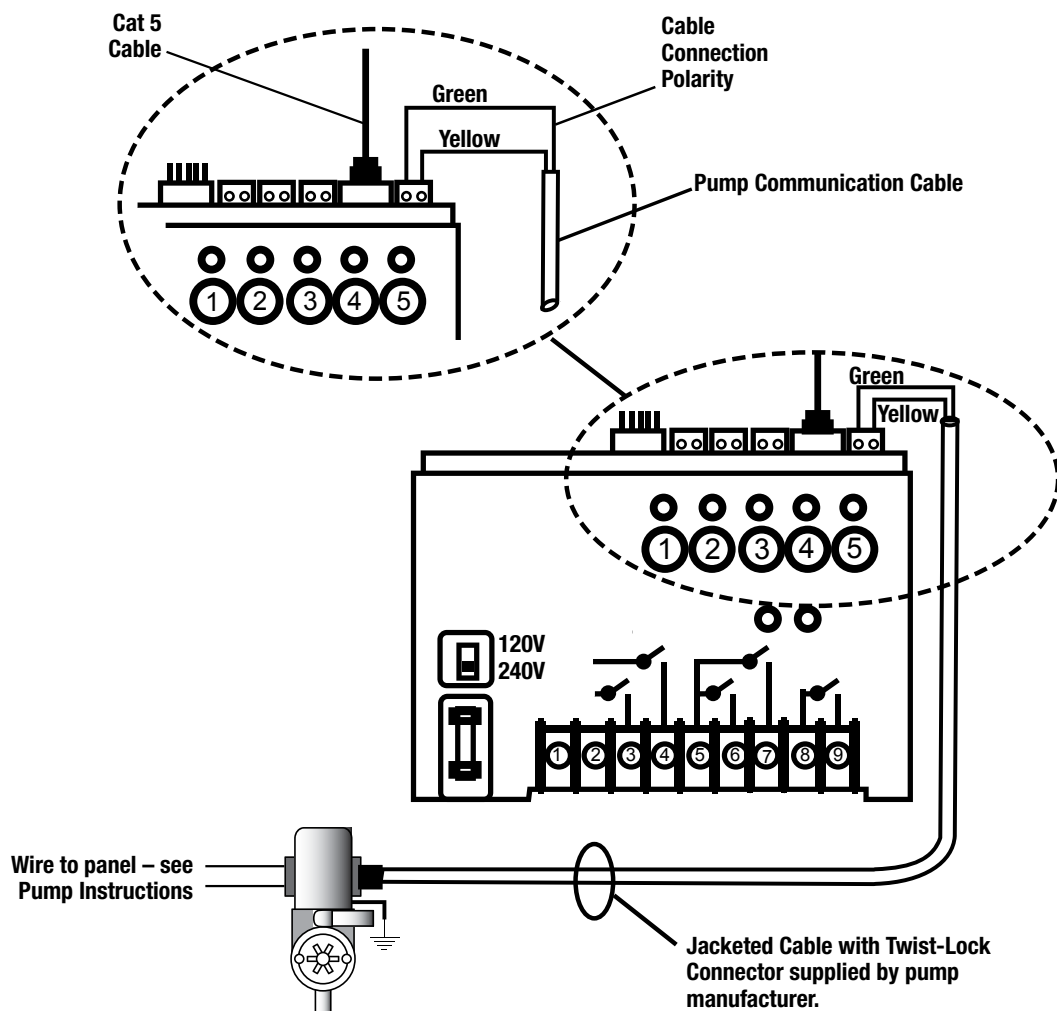

Figure 4-11. Connecting variable speed pump wiring.
3. Connect the green wire from the unattached end of the communication cable to the connector terminal next to the Cat 5 cable. See Figure 4-11.
4. Connect the yellow wire from the cable to the connector terminal next to the green wire. See Figure 4-11.